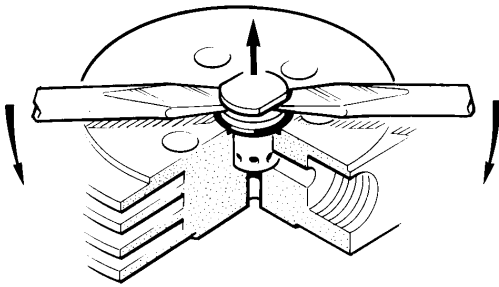

Fig. 13 Removal of 3rd stage pressure valve
- Remove acorn nut (1), rewind stud (3) up to three or four turns.
- Remove internal hex. screw (9) fixing valve head (7), take off valve head cover (8).
- Put two screwdrivers into the groove of outlet valve body, see Fig. 13. If necessary loosen valve first by using a 13 mm spanner on the flat surfaces.
- Lift out pressure valve (5) together with O-ring (4).